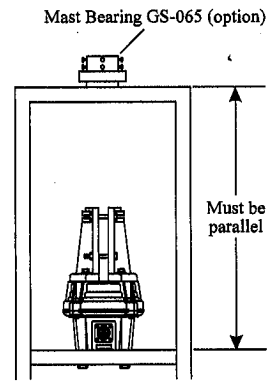

Figure 11
3. If a thrust bearing (such as the optional Yaesu model GS-065) is to be utilized, mount it on the top of the tower (see Figure 11) using the supplied hardware.